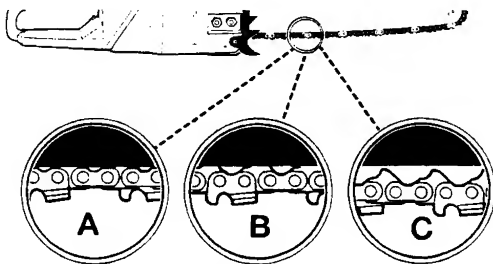

Fig. 23
**CAUTION:** If saw chain is **TOO TIGHT**, the sprocket, bar, chain, and crankshaft bearings will wear more rapidly. Study Fig. 23 for information concerning correct cold tension (A), correct warm tension (B), and as a guide for when saw chain needs adjustment (C).